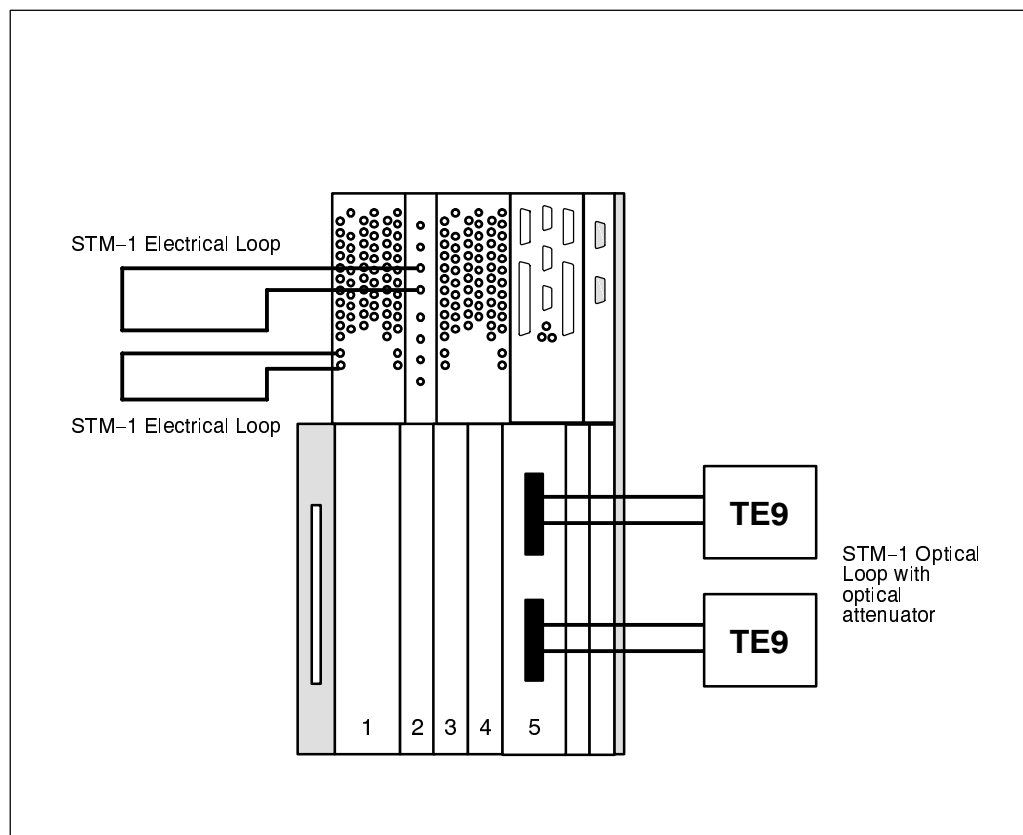

Fig. 3.4-1 Optical and electrical loop connections
1. Loop connect all STM-1 lines or tributaries (Electrical as well Optical), see Fig. 3.4-1.